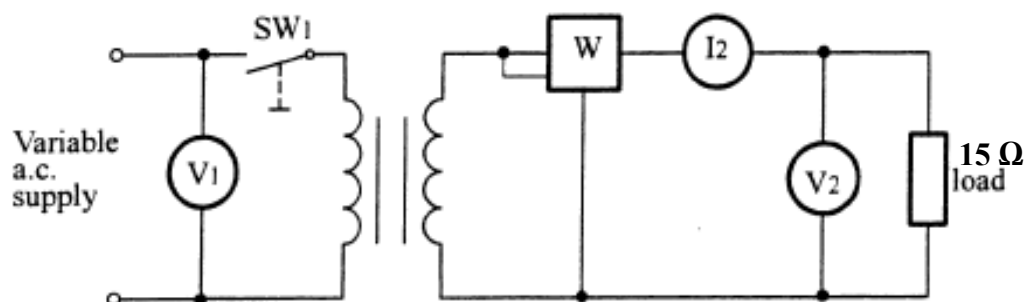

Figure 2
6. Connect the equipment as shown in Figure 2 below.